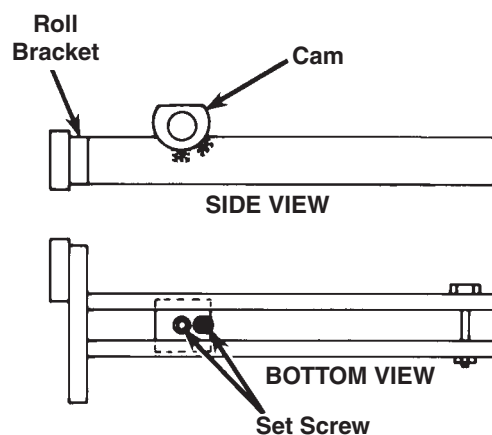

FIGURE 5A
7. Raise the lower bolster enough to insert the rear cams into the roll bracket with the screw heads between the roll bracket arms. One screw head should point straight down; the other screw head should point to the inside of the press. See Figure 5A. Slide the handles (#45654) with the front cams already assembled through the front roll bracket into the rear cam. The handle should be in the 2 o'clock position for the left side and in the 10 o'clock position for the right side. See Figure 15.